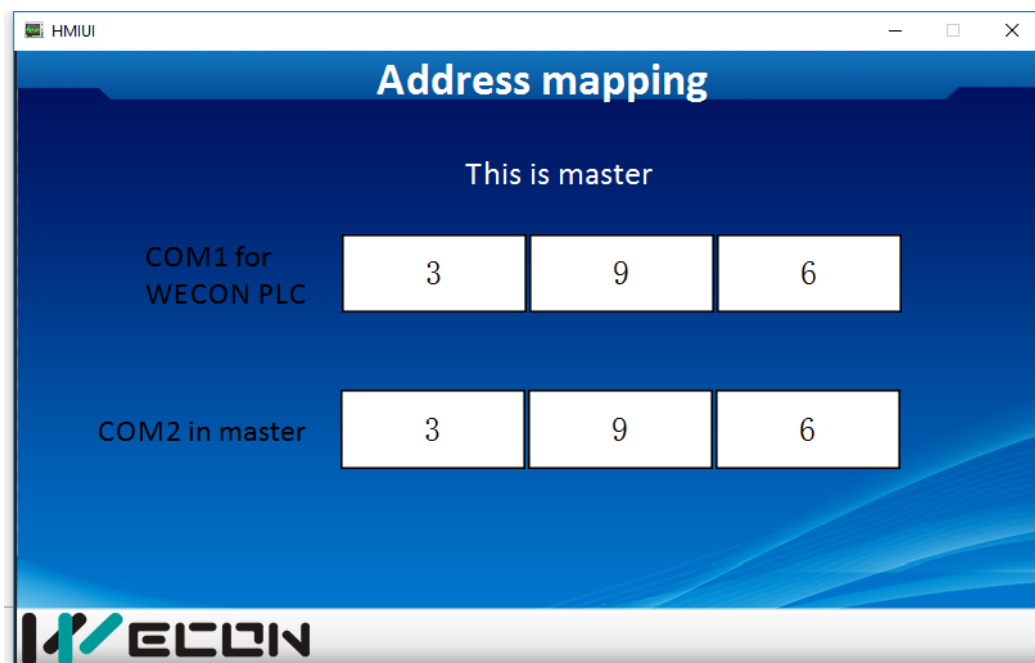

Figure 5
- 2) When PLC address receives the value, the results also are written to COM2 addresses. As Figure 5 shows;